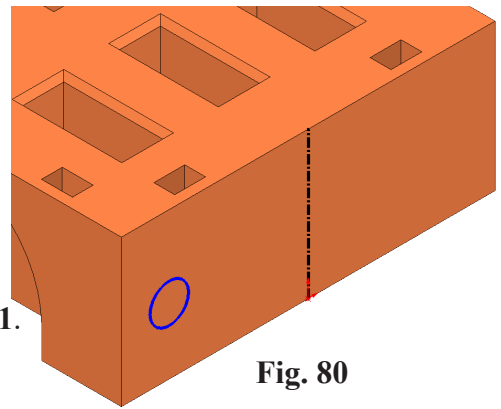

Fig. 80
Step 5. Click **Circle**  (S) on the Sketch toolbar.
Step 6. Sketch circle for tail light, **Fig. 80**.